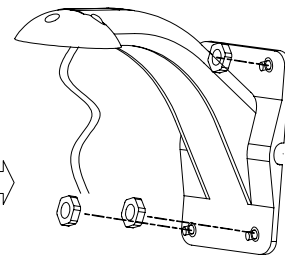

Figure 9
- 4) Fix the bracket on the wall (see Figure 9).